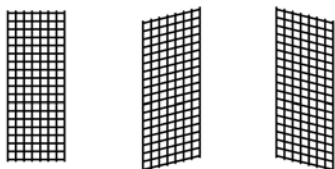

Fig. 52 Fig. 53 Fig. 54
Adjusting program 95 must be sewn as a rectangle (fig. 52) and not be sewn from the machine as a rhombus (fig. 53 or fig. 54).
- Sew adjusting program "95" (fig. 52).